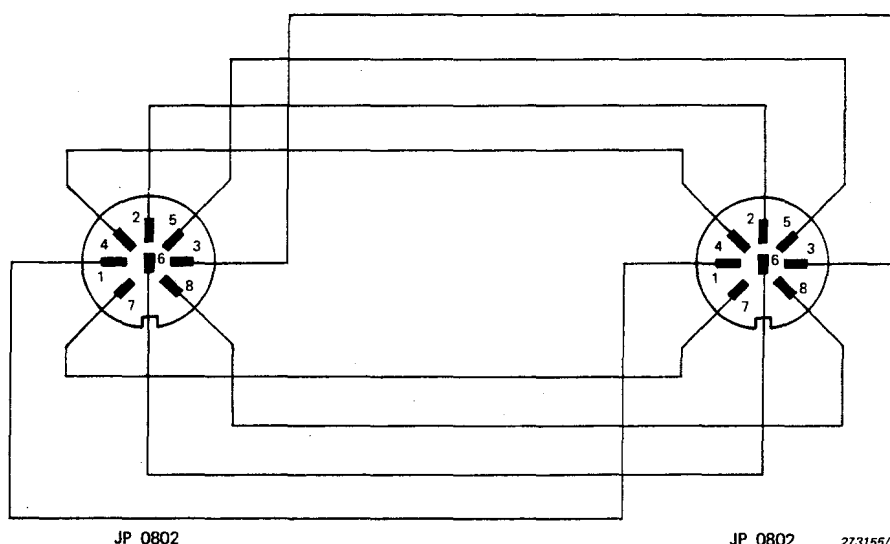

Fig. 3.4. Control cable AQ 0034
3. Connect Control Cable AQ 0034 (Fig.3.4) between FREQUENCY CONTROL VOLTAGE "In" on the 1023 and "X-INPUT" on the 2307.
3. Connect Cable AQ 0034 (Fig.3.4) between FREQUENCY CONTROL VOLTAGE "Out" on the 1023 and X-INPUT on the 2307.
The X sweep of the 2308 may very easily be slaved to the frequency of the 1023 using the standard Control Cable AQ 0034 (Fig.3.4) for applications involving a number of instruments and requiring a minimum of specially made up cables. To synchronize the 2308 with the 1023 for sweeping in frequency while recording on frequency-graduated paper, proceed as follows.
1. Connect Control Cable AQ 0034 (Fig.3.4) between FREQUENCY CONTROL VOLTAGE "Out" on the 1023 and REMOTE 1 on the 2308.
1. Connect Control Cable AQ 0034 (Fig.3.4) between FREQUENCY CONTROL VOLTAGE "In" on the 1023 and REMOTE 2 on the 2309.